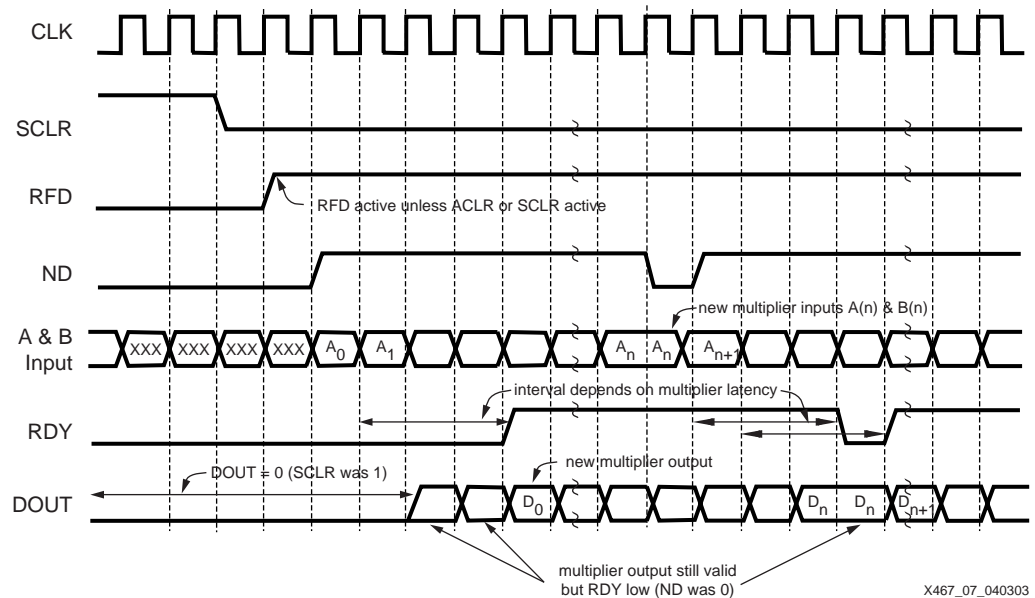

Figure 9: Multiplier Generator Timing Diagram
**Figure 9** shows the timing diagram for the Multiplier Generator.